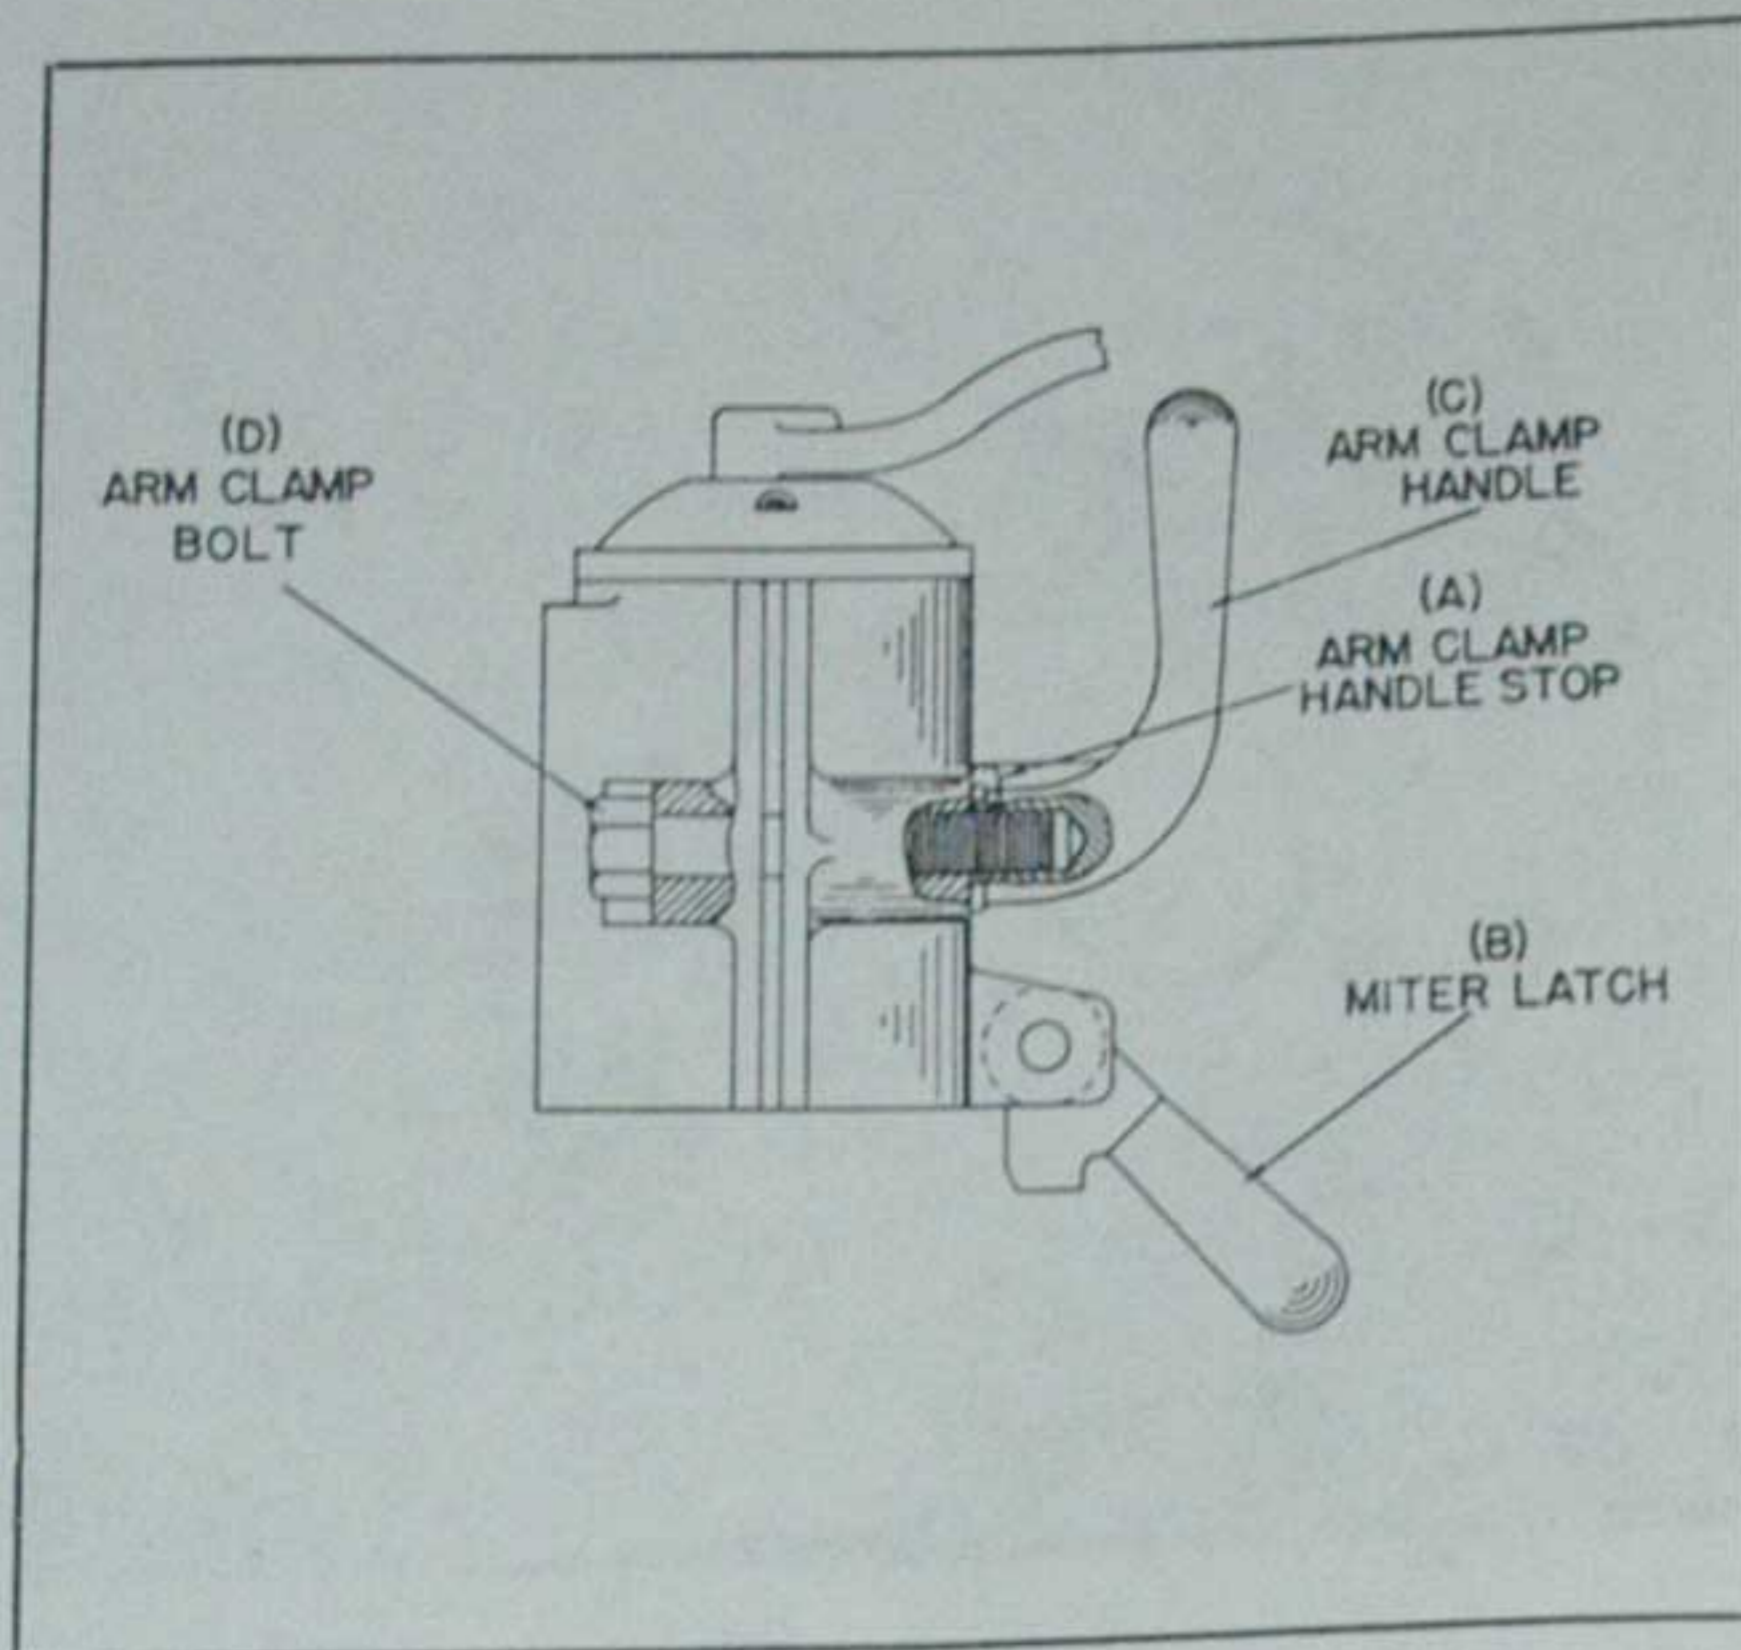

FIGURE 9
1. Remove the arm clamp handle stop (A, figure 9) and lift the miter latch (B) against the arm of the machine.
2. Unwind the arm clamp handle (C) by turning it to the right (clockwise). Turn the handle about four complete turns.
3. Push the arm clamp handle bolt (D) from its hex socket until the hex head can be turned.
4. Turn the hex clamp bolt (D) about one-sixth of a turn to the left. That will tighten the arm clamp handle.
5. Turn the hex screw head (D) in the hex socket, tighten the arm clamp handle (C) while it is in the upright position, and insert the arm clamp handle stop (A).